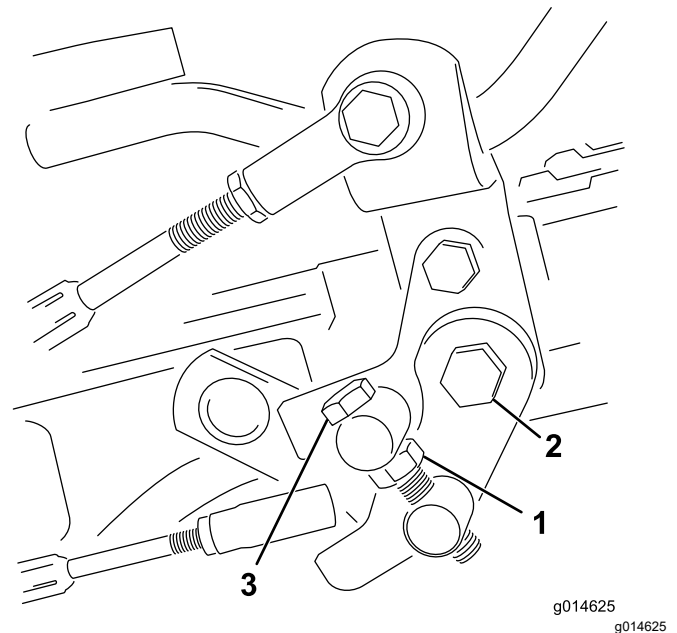

Figure 37
1. Loosen the jam nut on the trunnion bolt (Figure 37).
4. Tighten the jam nut on the trunnion bolt and the nut on the pedal pivot to lock the adjustment (Figure 37). Check the adjustment and adjust as required.